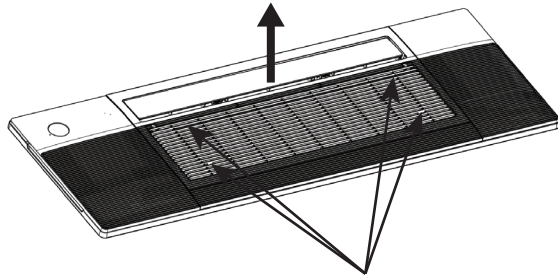

Fig. 7.1
1. Carefully grab the air intake grille with your fingers and slowly pull it out and allow it to hang from the panel as shown in **Fig. 7.1** below. This is necessary to access some of the holes for the mounting screws to attach the panel to the unit.
- All wiring must be performed in accordance with the wiring diagrams shown in Fig. 7.1 and demonstrated in the images shown here.